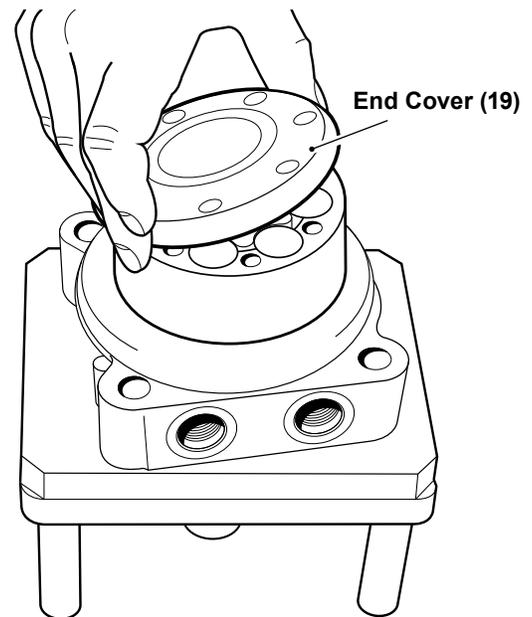

Figure 16, End Cover
- Install the end cover (19). *See figure 16.* Align markings.